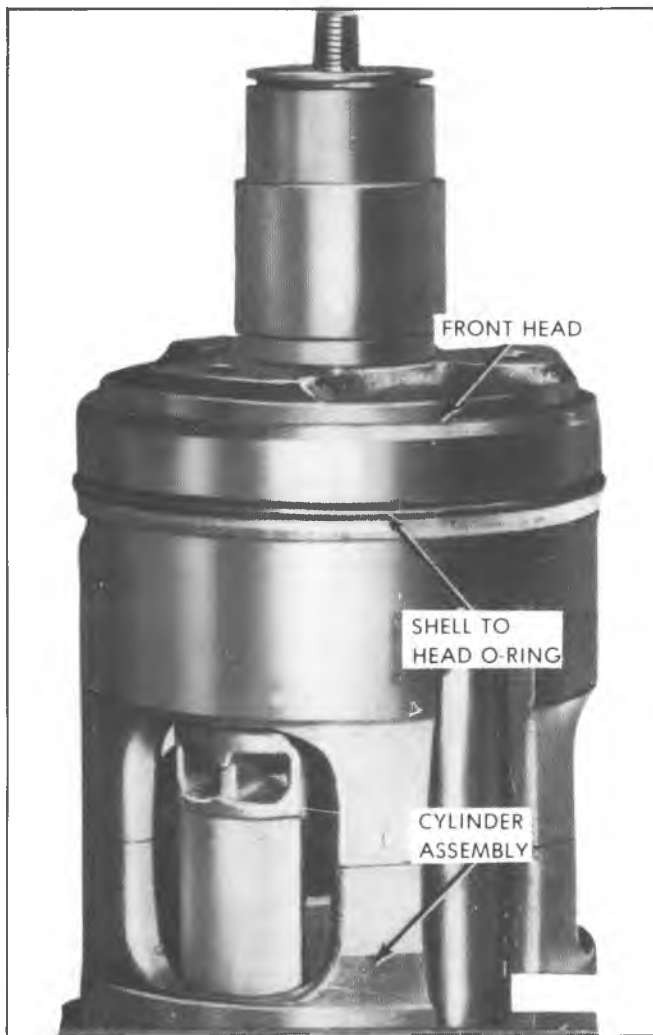

Fig. 66--A-6 Shell-To-Front Head O-Ring Installation
21. Using the 525 oil, lubricate new head to-shell O-ring and install on rear discharge valve plate, in contact with shell (Fig. 66).